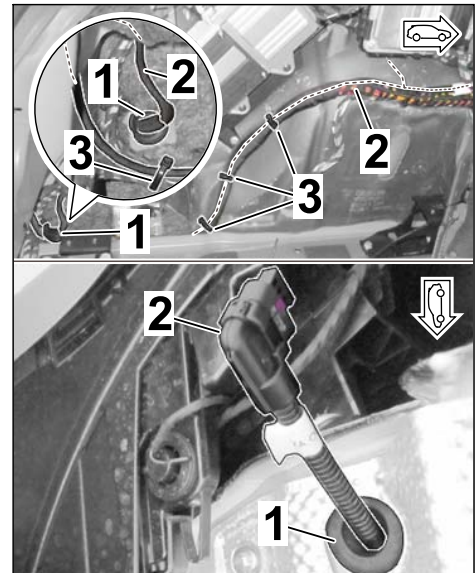

Figure 38
3.3 Guide connector (4-pin) through the bore to the underside of the vehicle and fit sleeve into the bore (⇒ *Figure 38*).